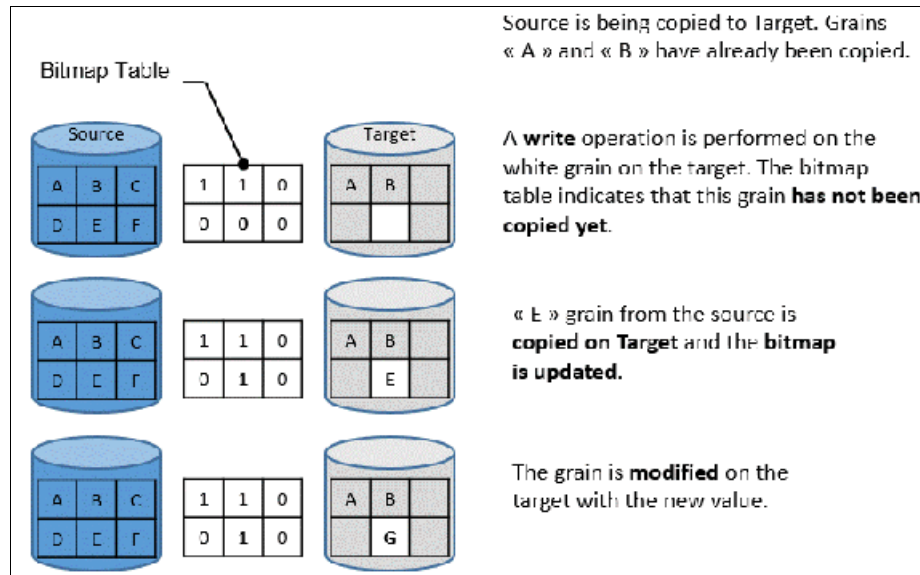

Figure 10-7 Modifying a non-copied grain on the target
- If the bitmap indicates the grain to be modified on the target was not yet copied, it is first copied from the source (copy on demand). The bitmap is updated, and the grain is modified on the target with the new value, as shown in Figure 10-7. The source volume remains unchanged.